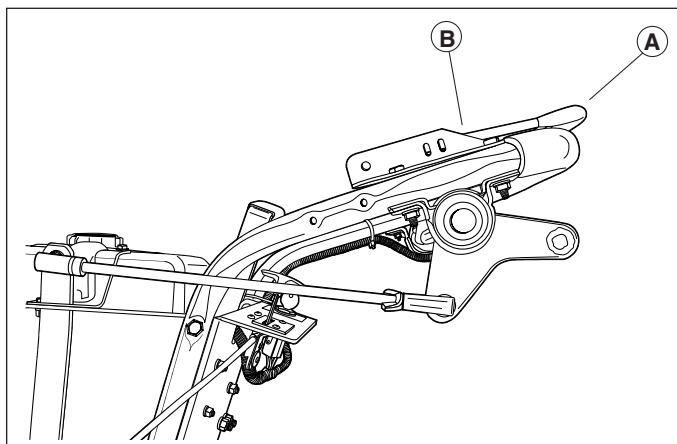

Figure 6 - Reverse Travel
- Grasping both upper handle/safety bar (A, Figure 6) and upper portion of traction drive engagement bar (B), slowly squeeze bar back toward handle. The unit should begin moving backwards.